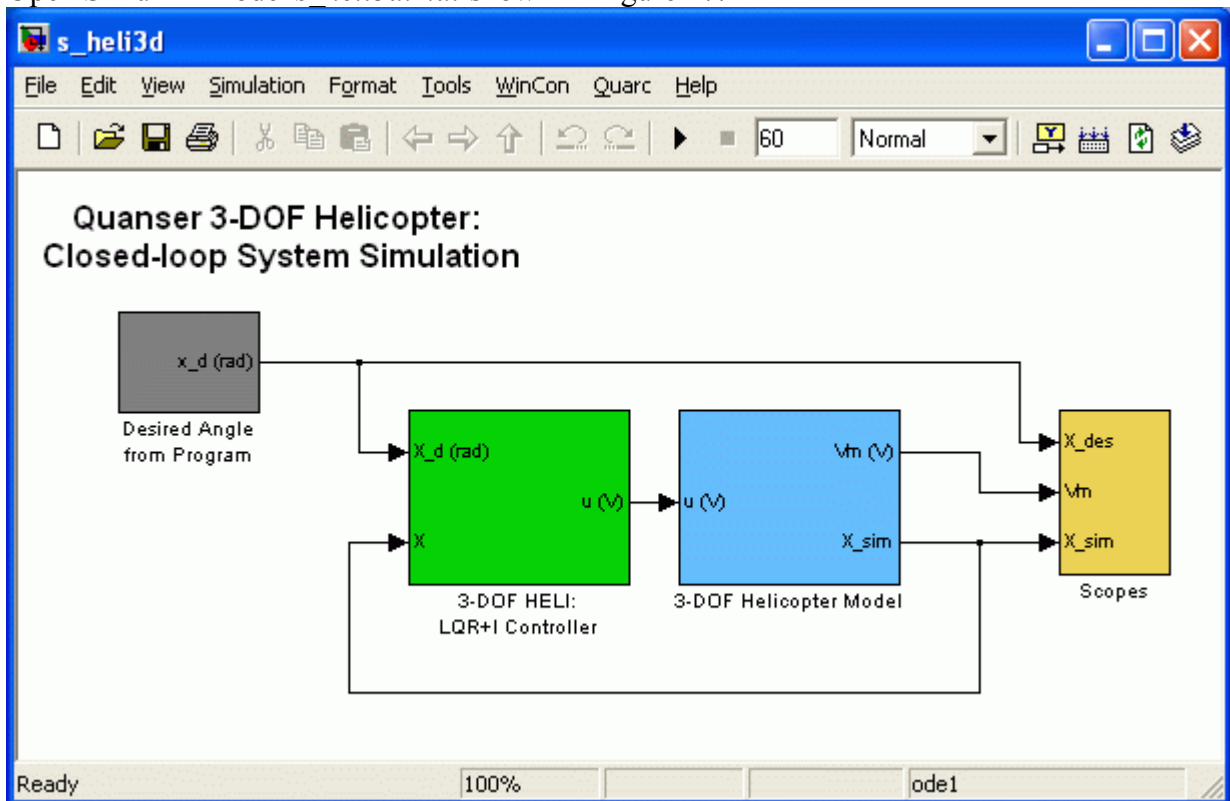

Figure 27: Simulink model *s\_heli3d.mdl* used to simulate closed-loop response of 3-DOF Helicopter.
1. Open Simulink model *s\_heli3d.mdl* shown in Figure 27.